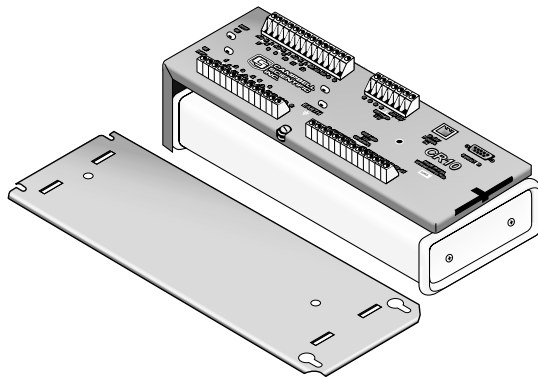

FIGURE 2. Removing Baseplate
5. Separate the baseplate from the wiring panel (Figure 2).